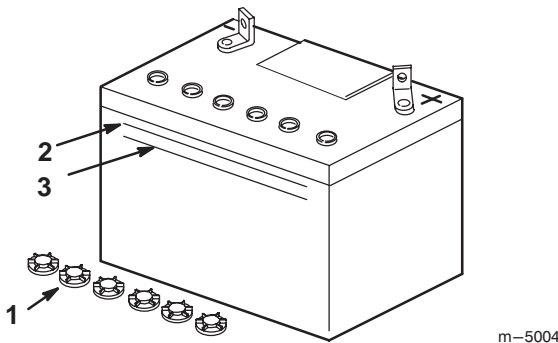

Figure 6
3. Remove the vent caps from the battery (Fig. 6).
4. Slowly pour electrolyte into each battery cell until the level is up to the upper line on the battery case (Fig. 6).
5. Wait five to ten minutes after filling the battery cells. Add electrolyte, if necessary, until the electrolyte level is up to the upper line on the battery case (Fig. 6).